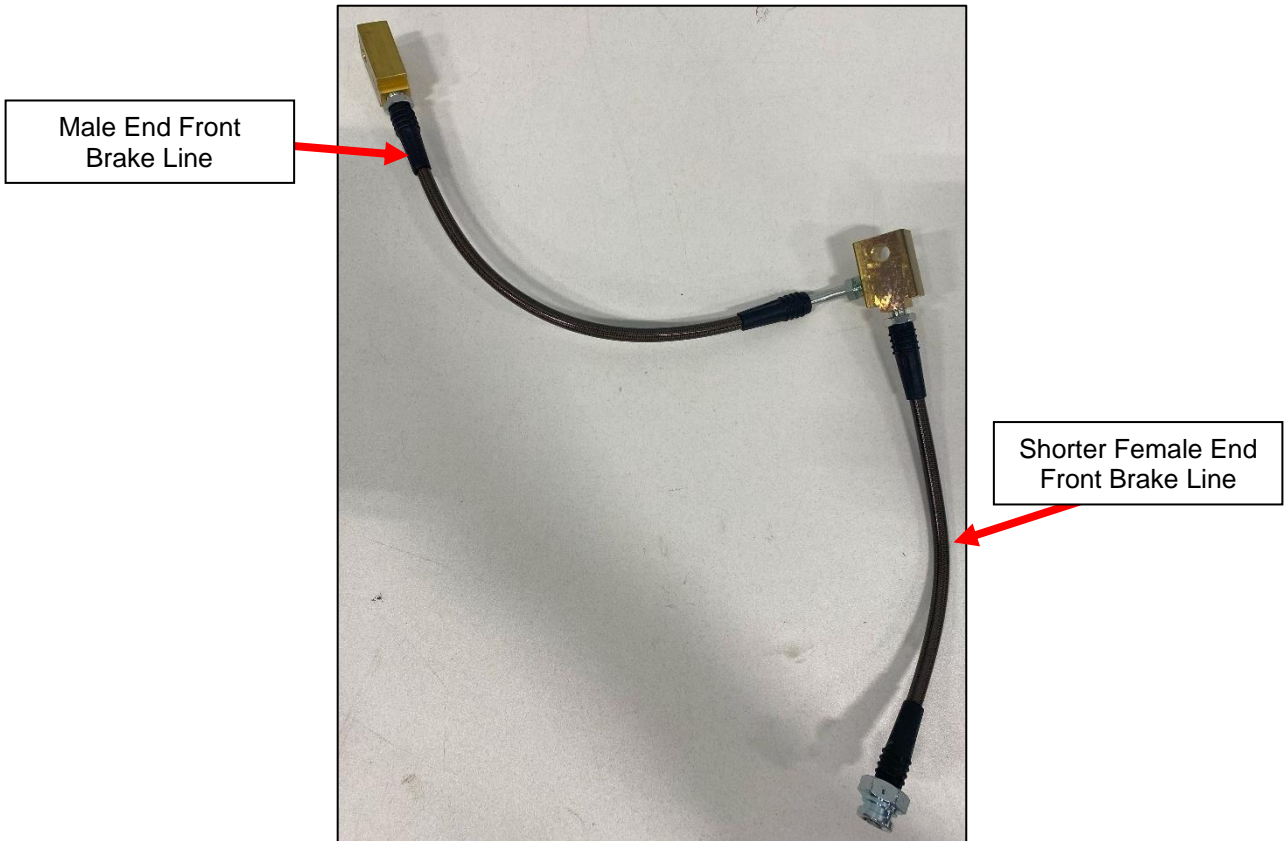

Figure 5
10. **Pre-2012:** Locate the Shorter Female End Front Brake Line and the Male End Front Brake Line. Install the Male End Brake Line into the Brass Block of the Female End Brake Line. *Figure 5.*